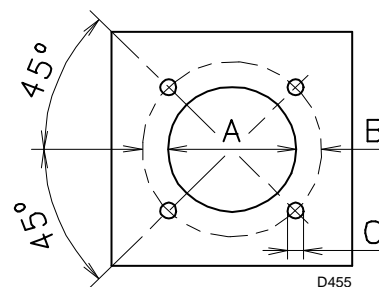

Fig. 11
Pierce the closing plate of the combustion chamber, as in Fig. 11. The position of the threaded holes can be marked using the thermal insulation screen supplied with the burner.
- Fit the entire burner onto the boiler hole prepared previously (Fig. 11), and fasten with the screws supplied.